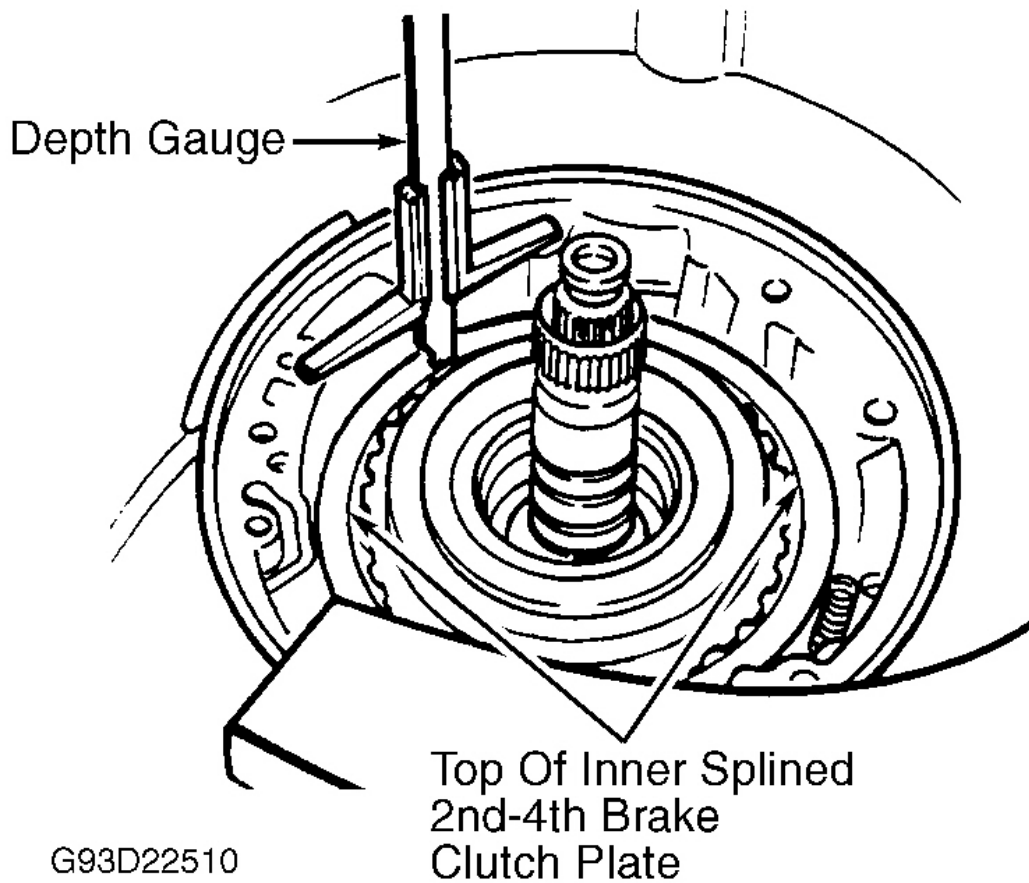

Fig. 80: Measuring Oil Pump Flange-To-Clutch Plate
13. Do not install top outer splined clutch plate or waved spring washer. Determine clearance of 2nd-4th brake clutch. Press 2nd-4th brake clutch assembly down. Using a depth gauge, measure distance from top of oil pump flange to 2nd-4th brake clutch (inner splined). See **Fig. 80**.